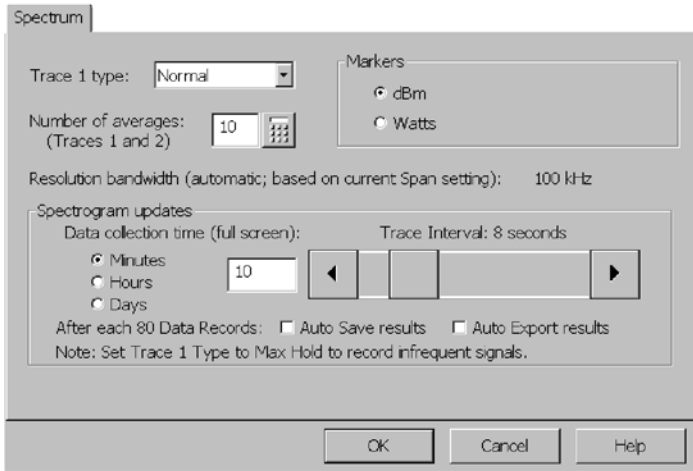

Figure 3-3: The Spectrum tab
2. Tap the **Spectrum** tab. See Figure 3-3.